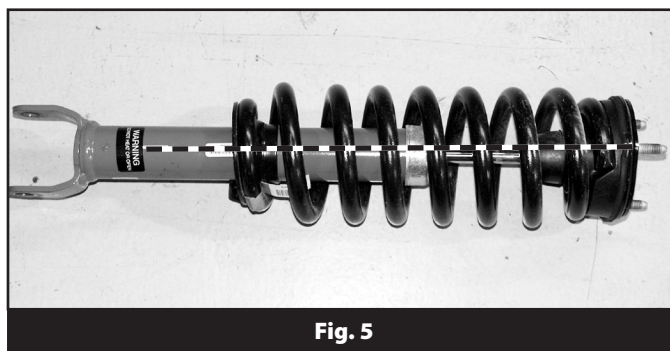

Fig. 5
11. Place indexing marks on the strut body, strut cap and upper coil seat (Fig 5, 6) for realignment of the components when the strut is reassembled.